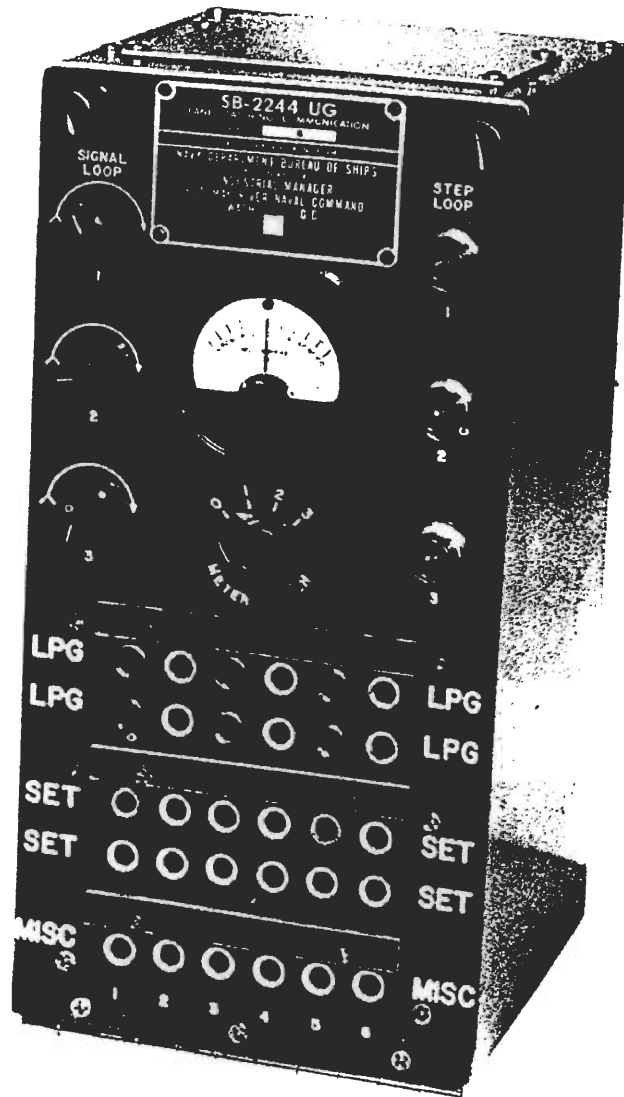
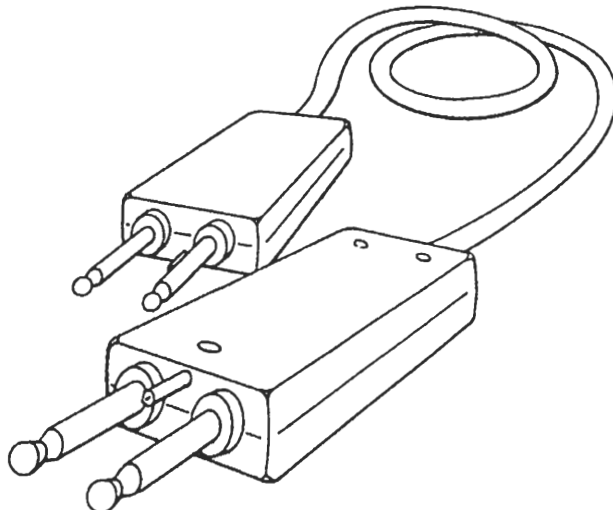

Figure 1-1. Communication Patching Panel SB-2244/UG.
Figure 1-2. Communication Patching Panel SB-2244/UG,
a. GENERAL. - Communication Patching Panel SB-2244/UG is a rectangular steel cabinet containing a terminal board which has facilities for connecting three circuits. Each circuit has two loops, one signal loop and one stepping loop. A loop comprises two looping jacks (LPG), two set jacks (Set 1 & Set 2), and one miscellaneous jack (MISC.). The signal loop has a rheostat to adjust the line current, while the stepping loop current is adjusted in steps by fixed resistors. The line current for the signal loop is monitored by a milliammeter which can be switched to any one circuit by a rotary switch. Stepping activity in the step loop is indicated by the flashing of a neon indicator, one for each stepping loop. There are three sets of miscellaneous jacks that may be connected to equipment or other circuits that normally do not appear on the patch panel. Each pair of jacks used to constitute a circuit has a polarization hole between them, to eliminate the possibility of cross patching. The controls and indicators are mounted on the front panel of the cabinet as shown in figure 1-1. The front panel is hinged at the bottom and secured at the top by two knurled thumb screws. Three special patchcords are supplied with each unit (see figure 1-2). Entry for cables terminating at the
b. Communication Patching Panel SB-2244/UG is designed for mounting side-by-side when more than three circuits are required. The panel cabinet is 12-1/8 inches high, 5-13/16 inches wide, and 6 inches deep (see figure 1-1).